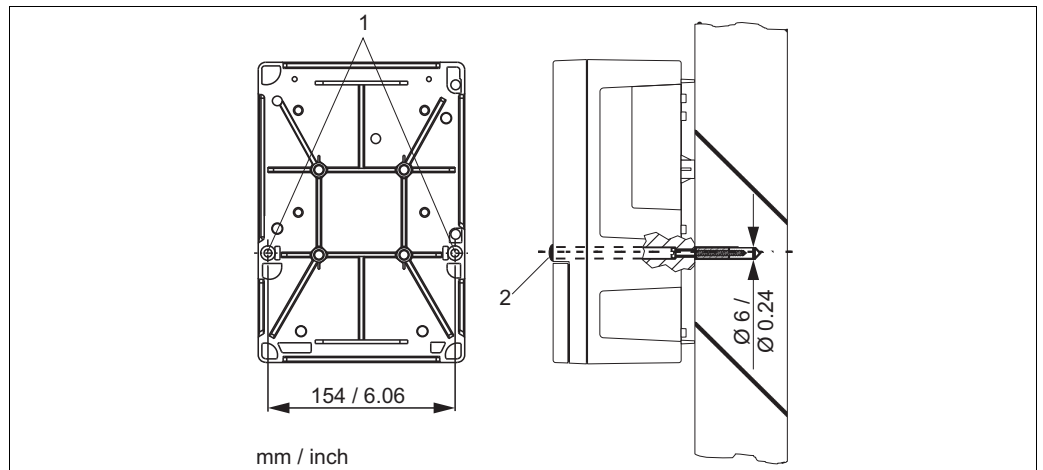

Fig. 7: Wall mounting field device
1. Drill the bores as shown in Fig. 7.
2. Drive the two fixing screws through the securing bores (1) from the front.
4. Cover the bores with plastic caps (2).